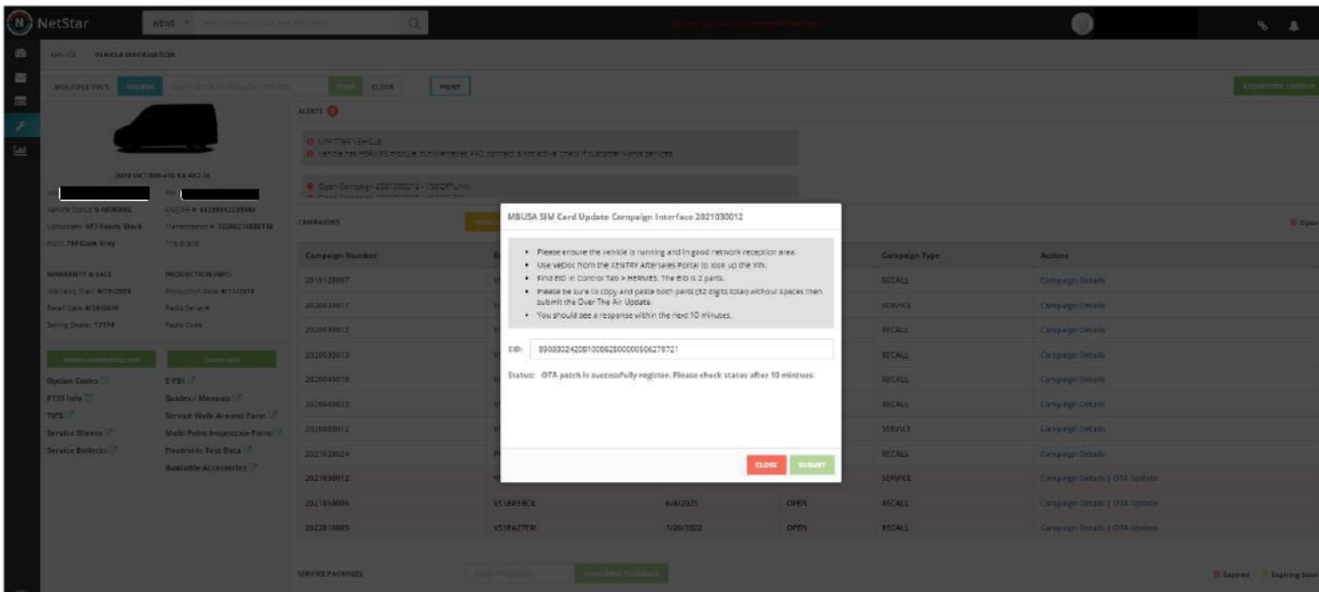

Figure 8 (screen on "NetStar" after the OTA update has been registered successfully)
**i** After you click "Submit", the following screens can be displayed depending on the results of the OTA Update: (Figures 8, 9, 10 11, and 12).